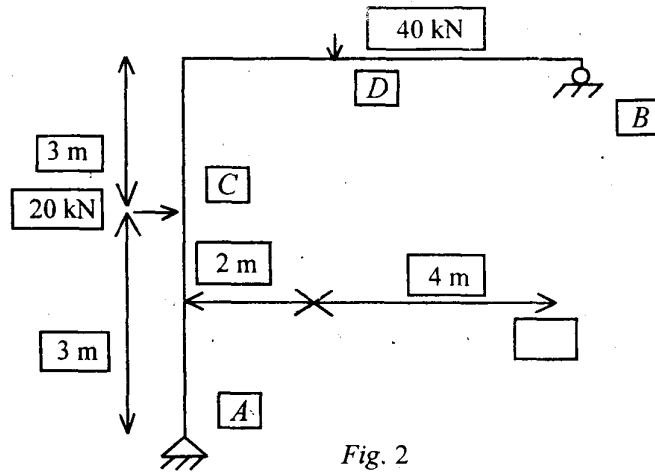

Fig. 2
2. Find out δ_{D_v} and δC_h for the frame shown in Fig. 2 : 20